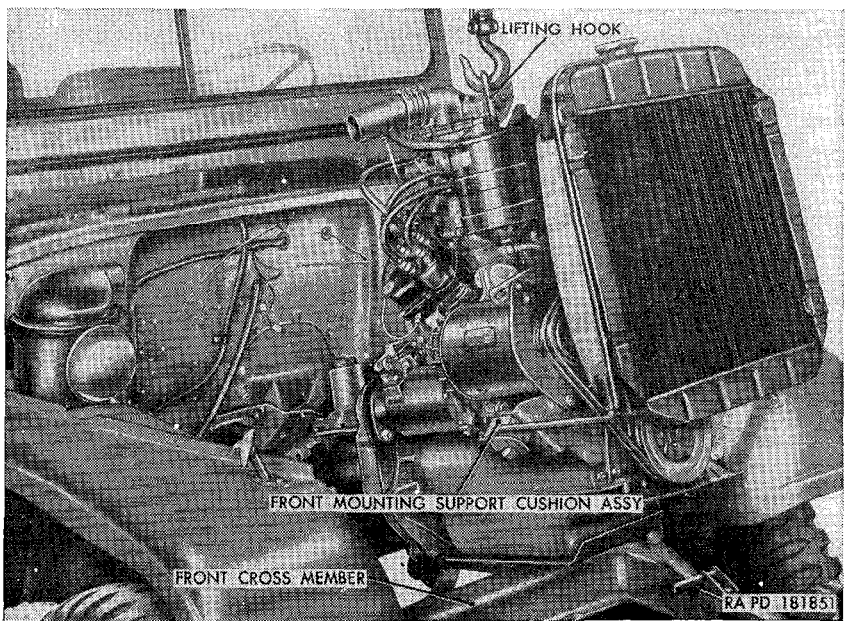

Figure 59. Lifting power plant from vehicle.
- (6) Place a jack under the clutch bell housing to support the power plant rear end. Unscrew the two nuts (S) from the bolts on the right and left side of the vehicle, remove the lockwashers, the engine rear support cross member (Q) with the skid plate (J) and the bolts.
f. *Lifting Power Plant From Vehicle* (fig. 59).
- a. *Lowering Power Plant Into Vehicle* (fig. 59).